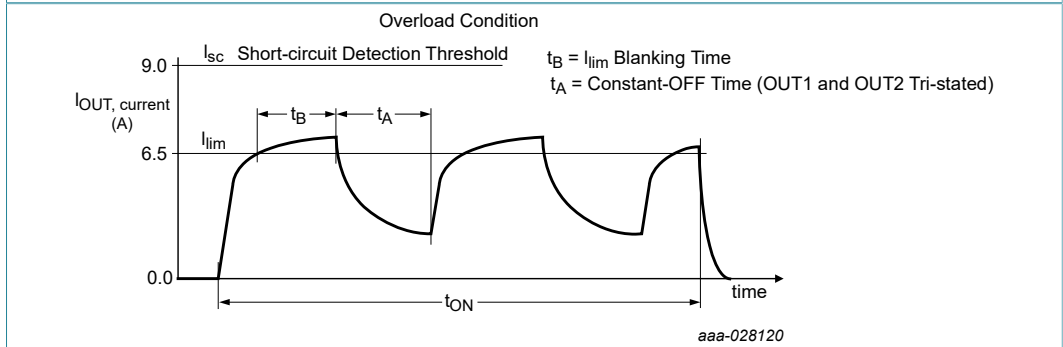
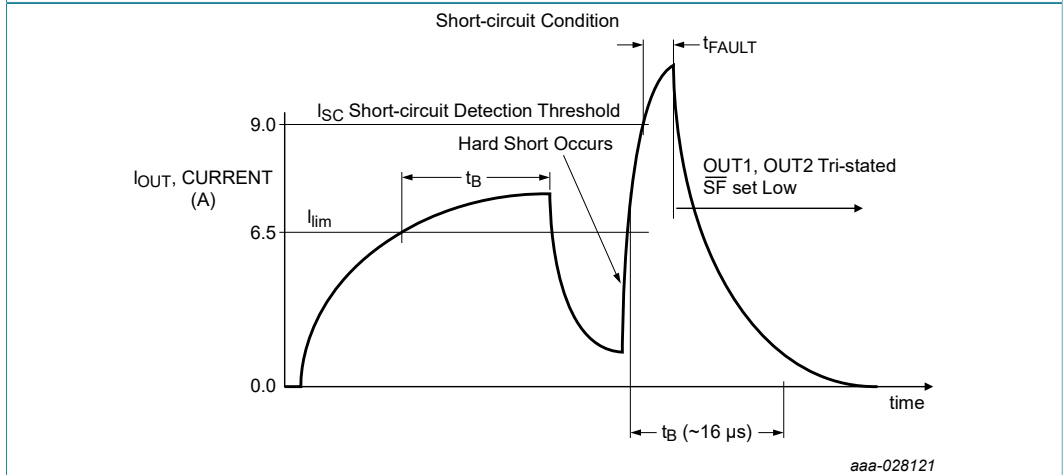
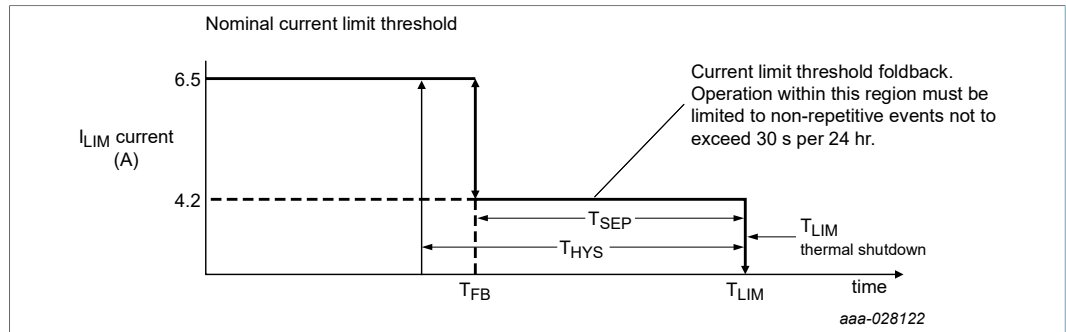

Figure 8. Current limit blanking time and constant-off time
Figure 9. Short-circuit detection turn-off time t_{FAULT}
Figure 10. Output current limiting foldback region
| I _{LIM} | Output current regulation threshold • T _J < T _{FB} • T _J ≥ T _{FB} (foldback region - see Figure 10 and Figure 12) | [5] 5.2 | 6.5 | 8.0 | A |
- [9] Load currents ramping up to the current regulation threshold become limited at the I_{LIM} value (see Figure 8). The short-circuit currents possess a di/dt that ramps up to the I_{SCH} or I_{SCL} threshold during the I_{LIM} blanking time, registering as a short-circuit event detection and causing the shutdown circuitry to force the output into an immediate 3-state latch-off (see Figure 9). Operation in current limit mode may cause junction temperatures to rise. Junction temperatures above $\sim 160\text{ }^\circ\text{C}$ causes the output current limit threshold to "foldback", or decrease, until $\sim 175\text{ }^\circ\text{C}$ is reached, after which the T_{LIM} thermal latch-off occurs. Permissible operation within this foldback region is limited to non-repetitive transient events of duration not to exceed 30 seconds (see Figure 10).